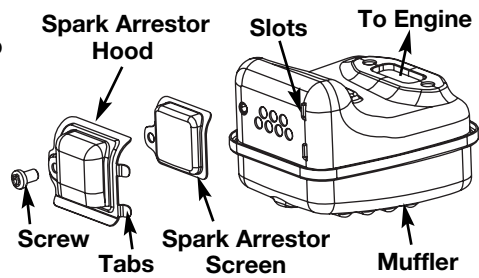

Fig. 19
2. Locate the muffler, **but do not remove it.** Find the screw on the bottom of the muffler (Fig. 19). This screw holds the Spark Arrestor Hood Assembly and the spark arrestor screen to the bottom of the muffler. Remove this screw using either a Torx T20 or flat blade screwdriver.
6. Place the spark arrestor plate on top of the spark arrestor screen with the raised side up and the opening facing toward the engine (Fig. 19)
plate with the "raised" side up and the opening facing AWAY from the engine (Fig. 19). Verify that the exhaust will be directed AWAY from the engine.